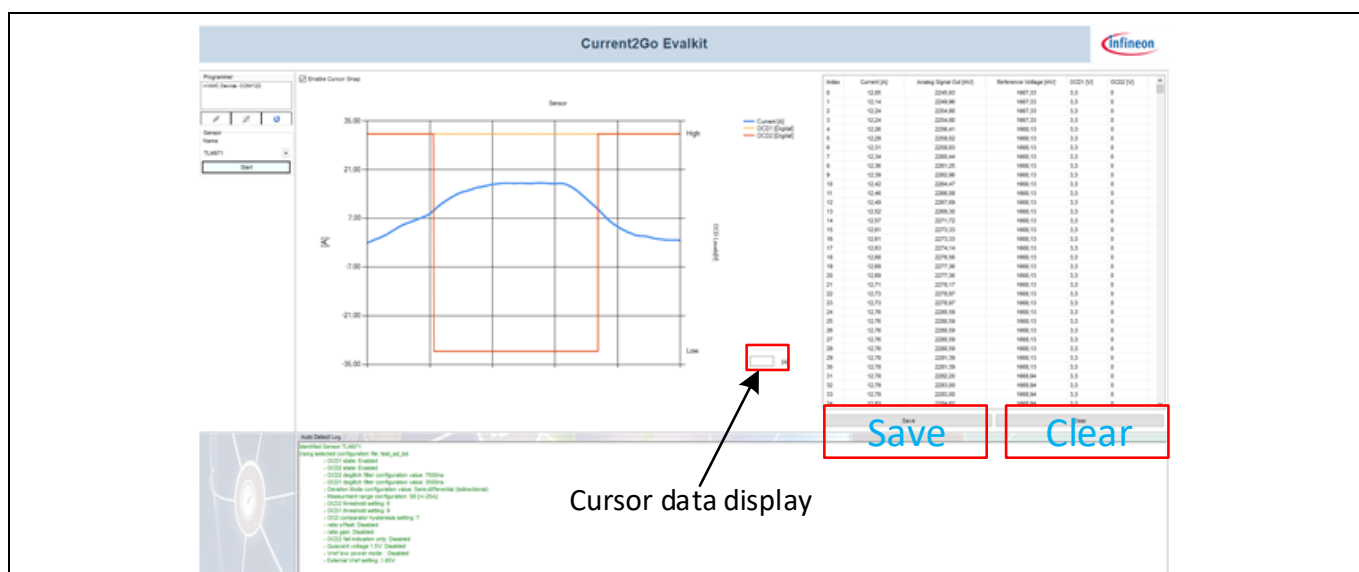

Figure 17 XMC Device: COM6 window: Save and Clear options
- When the user click on the “Start” button then the GUI starts real time graph for plotting the current value(in ampere scale) and OCD line status in the middle pane of the Current2Go Evalkit window, and displays offline acquired values (current computation, AOUT/VREF voltage, OCD states) , as shown in the below Figure 17. Also, either it is possible to save or clear the data by using the “**Save**” or “**Clear**” buttons respectively that are highlighted in red color boxes which are on the bottom right side of the XMC Device: COM6 window. The user can click on at any point on the plot window and the respective cursor data will be shown in the small box that is highlighted in red color box which has shown in the bottom right corner of the plot window